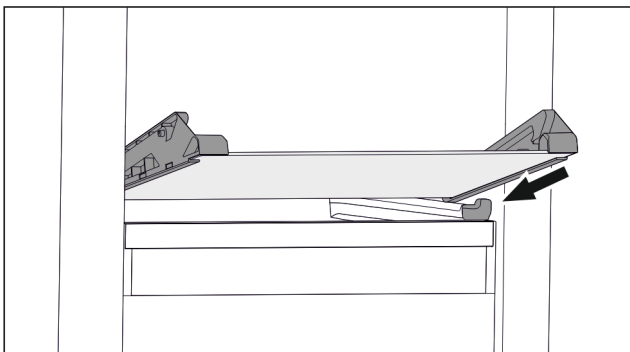

Fig. 67 Tilting drawer glass shelf
- ▶ Position glass shelf at an angle behind the stoppers. (see Fig. 67)